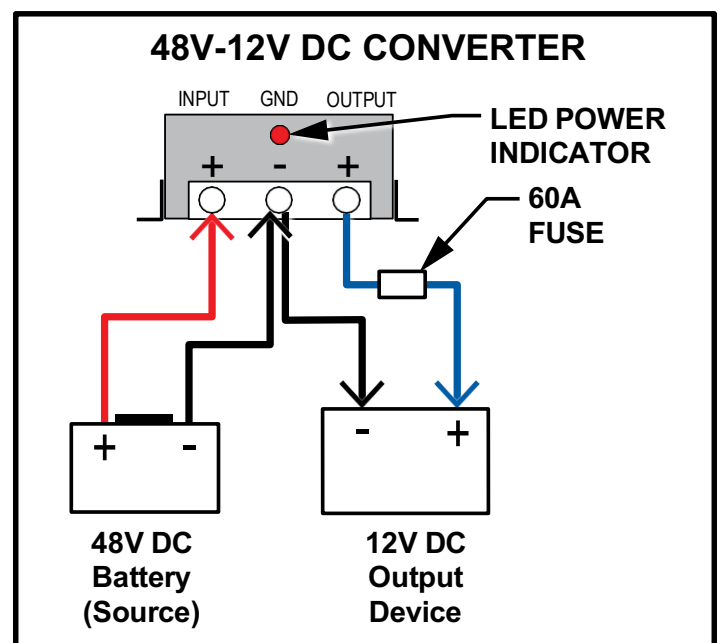

Figure 1-9
8. For manual wiring the connections refer to the following steps. (See *Figure 1-9*)